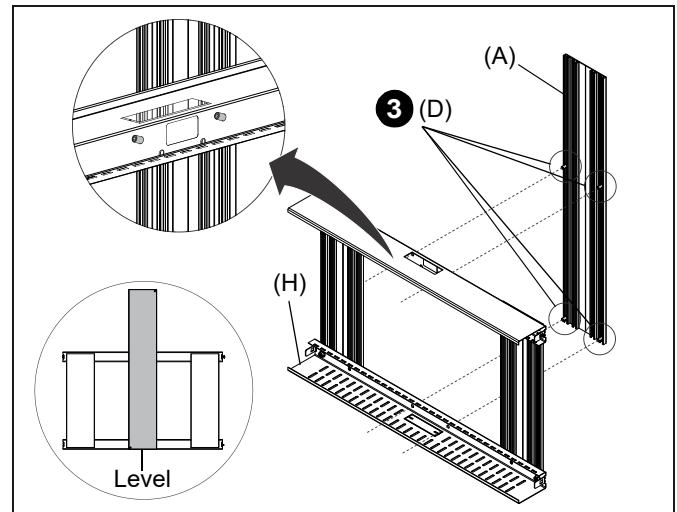

Figure 12
3. Assemble the storage box (H) on the four M8 x 20mm screws (D) in the upright extrusion (A). Adjust the position of the storage box (H) until it is level with the bottom edge of the extrusion (A). (See Figure 12)